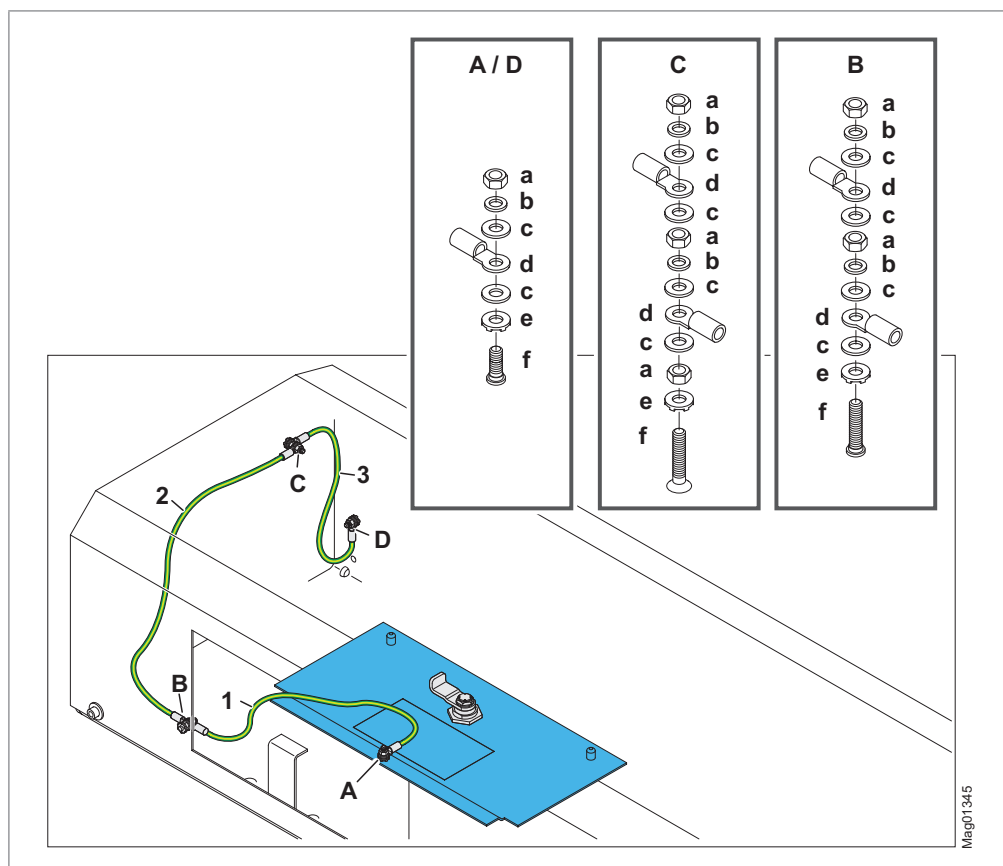

Fig. 2: Earthing points service door, cover and support beam (exemplary representation)
- A Earthing point service door (single) ↗ Page 17, Fig. 2
- B Earthing point cover (double) ↗ Page 17, Fig. 2
- C Earthing point support beam (double) ↗ Page 17, Fig. 2
- D Earthing point mounting panel support beam (single) ↗ Page 17, Fig. 2